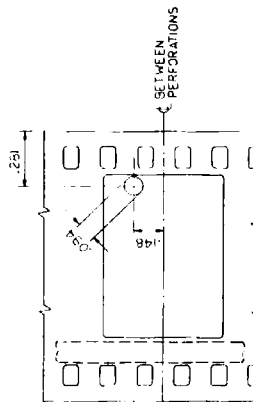
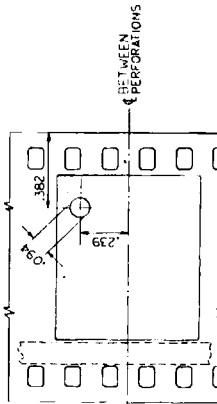

Fig. 6. Position of Cue Marks for Release Prints with Aspect Ratios up to 1.85:1.
Fig. 7. Position of Cue Marks for Release Prints with Aspect Ratios from 2.35:1 to 2:1.
5.2 Motor Cue. The motor cue shall consist of an opaque circular dot with a transparent outline or a transparent circular dot with an opaque outline, printed from a 35mm negative which has had four consecutive frames punched with a die 0.094 inch in diameter. The position of this cue mark for release prints with aspect ratios up to 1.85:1 shall be as shown in Fig. 6. The position of the cue mark for release prints with aspect ratios from 2.35:1 to 2:1 shall be as shown in Fig. 7.